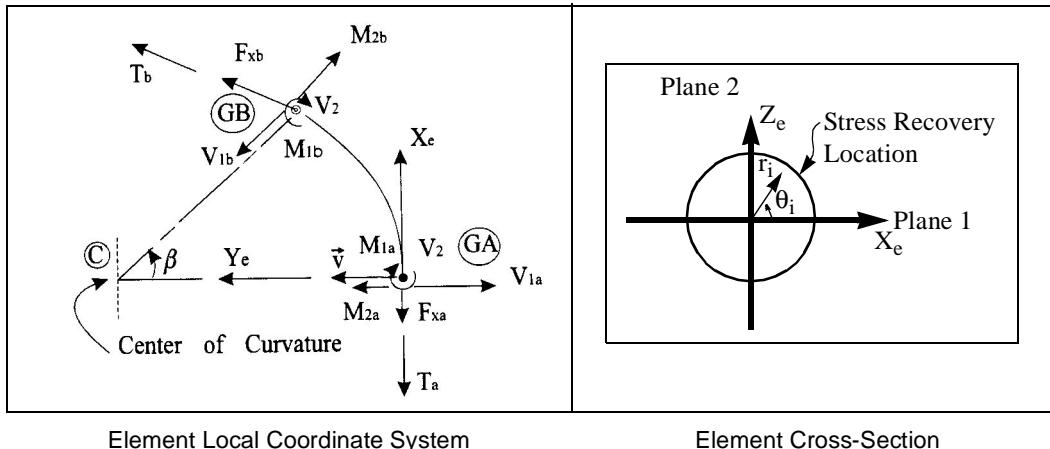

Figure 4-37 CELBOW Element Coordinate System
4. Certain PELBOW properties (e.g., stress recovery locations) are defined in terms of the CELBOW element coordinate system, as shown in Figure 4-37.